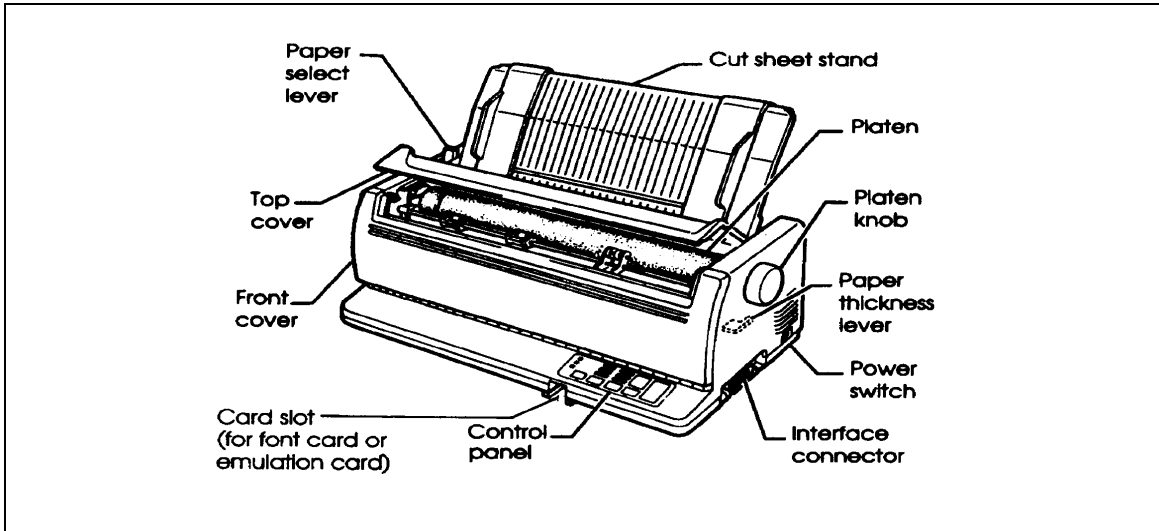

Figure 3-15. Front and Side View of Printer.
- (1) An overview of the printer is shown in figure 3-15.